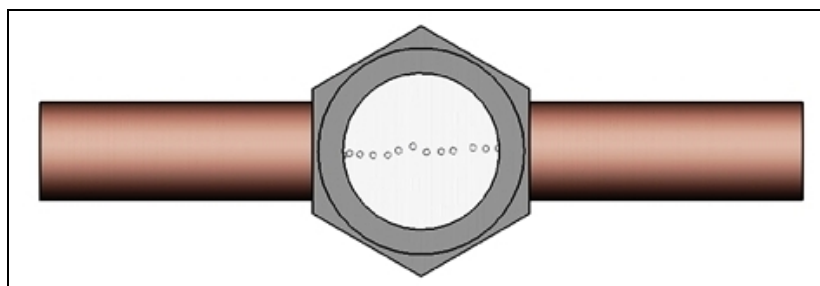

Figure 32. Few Bubbles-Inline Sight Glass
- C. **INLINE** sight glass has **FEW BUBBLES**: This is illustrated in Figure 32. When this condition exists, the next steps are to check the superheat and adjust the TXV as necessary.